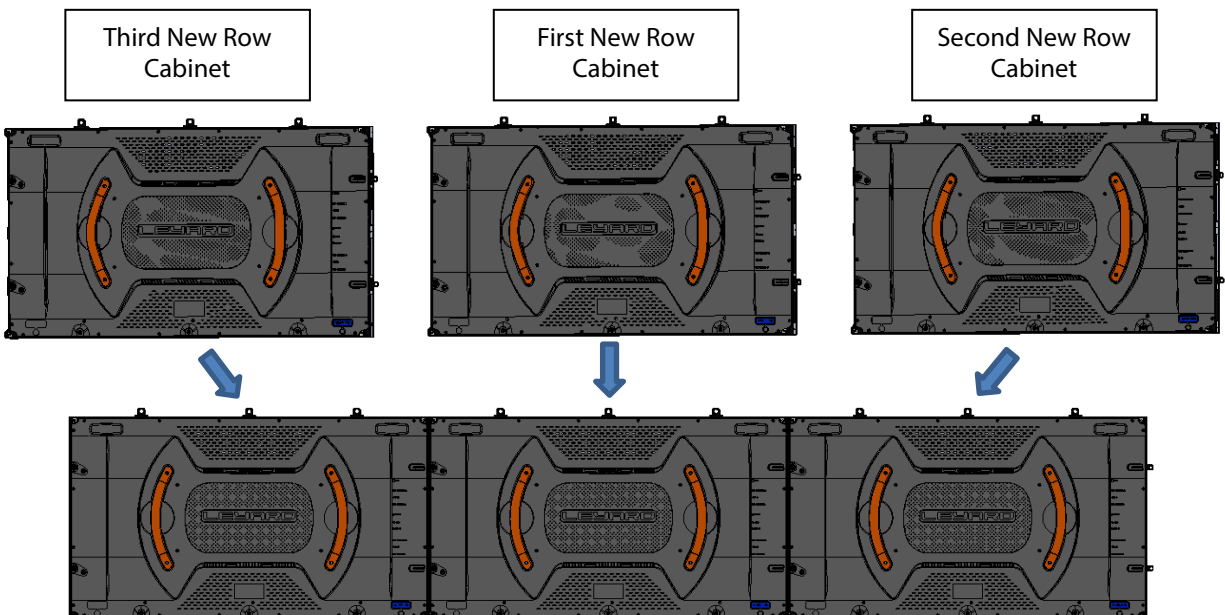

Figure 10. For additional rows, add the center cabinet first, and then build out the row of cabinets to the right and left from the center.
- Just like the first row, install the cabinets from the center cabinet and alternate right and left to fill out each row as shown in Figure 10.